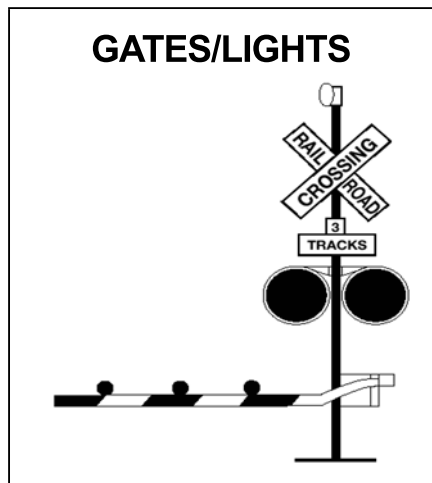

Figure 2.18
**Flashing Red Light Signals.** At many highway-rail grade crossings, the crossbuck sign has flashing red lights and bells. When the lights begin to flash, stop! A train is approaching. You are required to yield the right-of-way to the train. If there is more than 1 track, make sure all tracks are clear before crossing. See Figure 2.18.
**Gates.** Many railroad-highway crossings have gates with flashing red lights and bells. Stop when the lights begin to flash and before the gate lowers across the road lane. Remain stopped until the gates go up and the lights have stopped flashing. Proceed when it is safe. See Figure 2.18.